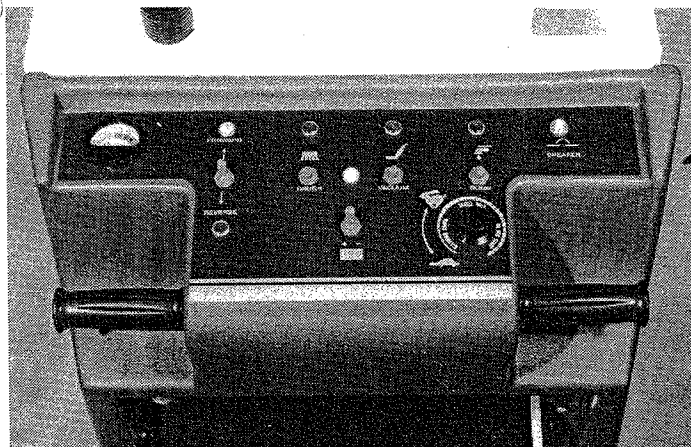

FIG. 4a
- a. **Forward mode.** (See Figure 4a.) To advance the Concorde in the forward mode, adjust the speed control knob counterclockwise to the stop position. Then move the forward-reverse switch to the forward position, causing the green forward indicator light to glow. Twist the roll grips forward and slowly rotate the speed control knob clockwise until the Concorde reaches the desired speed.